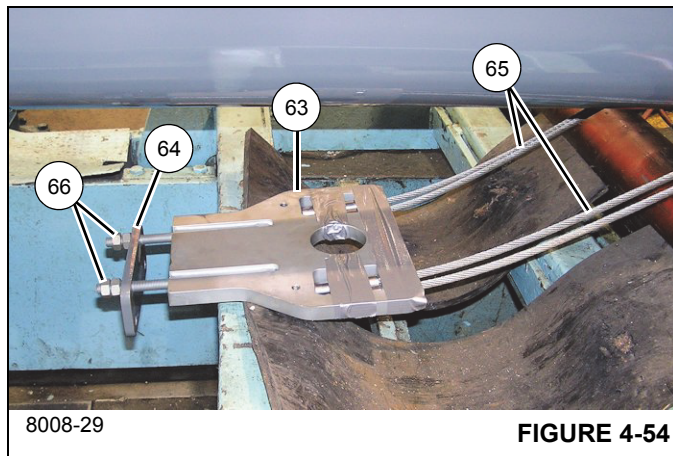

FIGURE 4-54
**NOTE:** Do not allow the wear pad (94) to hang from the grease hose, as the threads of the wear pad can be damaged. If wear pad threads are damaged, replace the wear pad; do not try to repair with thread tape.
93. Align tele 1 and 2 with each other, then partially insert tele 2 (3) into tele 1 (2).
94. Use the shims (70) to adjust the tele 2 rear wear pad assemblies (71, 82) such that the wear pads are within 2 mm (0.08 in) of the sides and the bottom of tele 1. An equal number of shims should be used on each side.
95. Insert tele 2 (3) three-quarters of the way into tele 1 (2).
96. Install the shims (53) and the front lower wear pads (54, 55) into the bottom of tele 1 (2).
97. Install the left, right, and bottom keeper plates (2x-14, 13) to the front of tele 1 (2) using the bolts (19), flat washers (16), lock washers (17), and nuts (18).
98. Install the stop block (56) and shim (57) to the front of tele 1 (2) using the two bolts (58), four washers (16), two lock washers (17), and two nuts (18) (left and right sides).
99. After ensuring that the tele 3 retract cables (65) are not crossed, install the four cable ends into the slots of the retract anchor weldment (63); wrap duct tape around the anchor weldment to secure the cables in place (see Figure 4-54).
100. Install the anchor plate (64) onto the studs of the retract anchor weldment (63) and secure with the nuts (66) (see Figure 4-54).